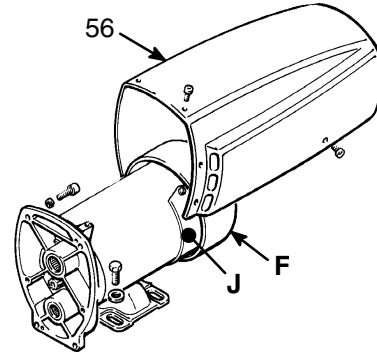

Fig 22-1
Remove the pressure control cover. Remove the motor shield (56). Remove the fan cover (F) and the inspection covers (J). Refer to Fig 22-1.